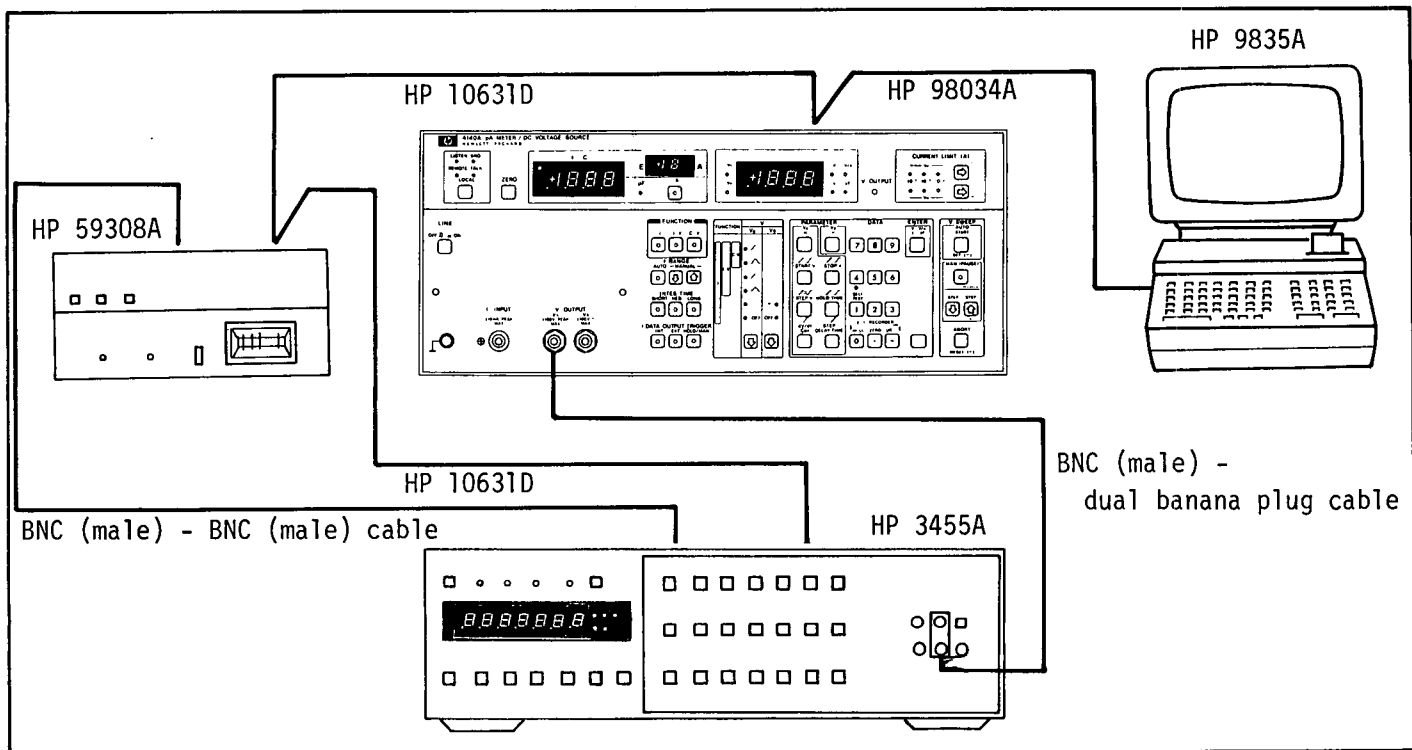

Figure 5-6. VS (Voltage Source) Ramp Rate Adjustment Setup.
3. Connect 98034A HP-IB Interface Card with Cable between 9835A I/O slot and 4140A rear panel HP-IB connector as shown in Figure 5-6.
7. Connect 4140A, 3455A and 59308A with 10631D HP-IB cables as shown in Figure 5-6.
8. Connect BNC (male) to BNC (male) cable between 59308A OUTPUT connector and 3455A EXT TRIGGER INPUT connector as shown in Figure 5-6.